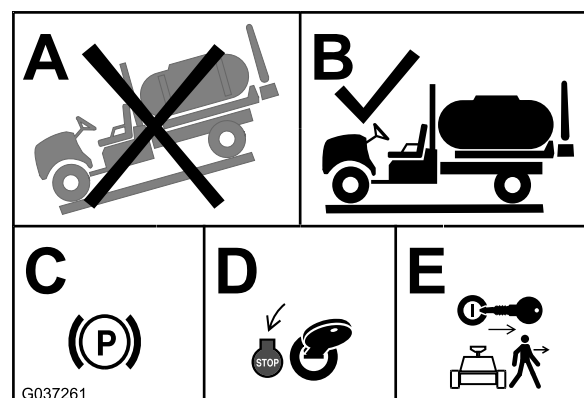

Figure 1
1. Move the machine to a level surface (A and B of Figure 1).
2. Set the parking brake (C of Figure 1).
3. Shut off the engine (D of Figure 1).
4. Remove the key from the key switch (E of Figure 1).